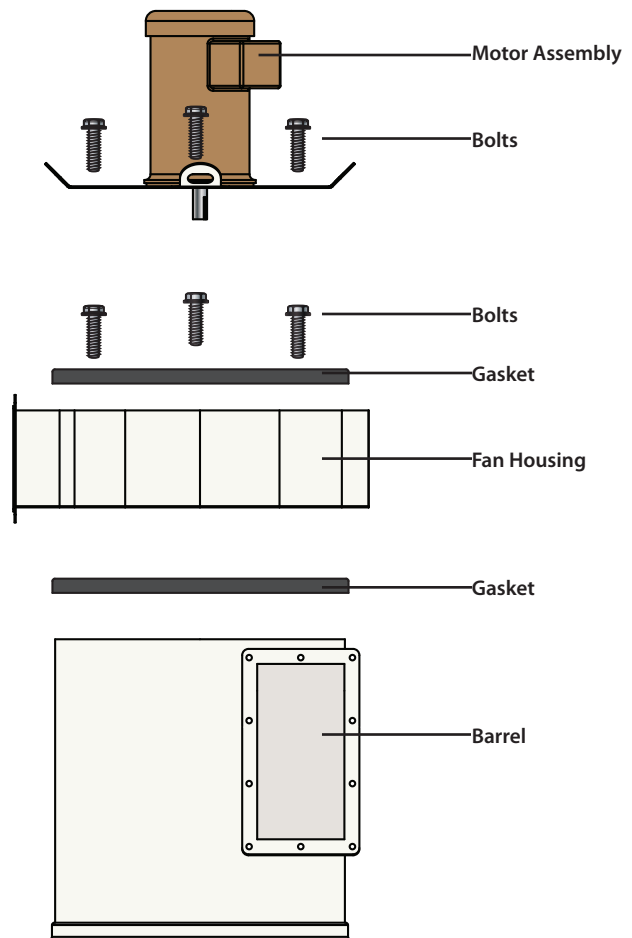

FIG. 3b
If you need to alter the Fan Blower Assembly (A) for your setup you will need to unbolt the eight bolts from the motor assembly and unbolt the eight bolts from the fan housing attached to the barrel [FIG. 3b]. Then rotate to the desired angle (45° increments).